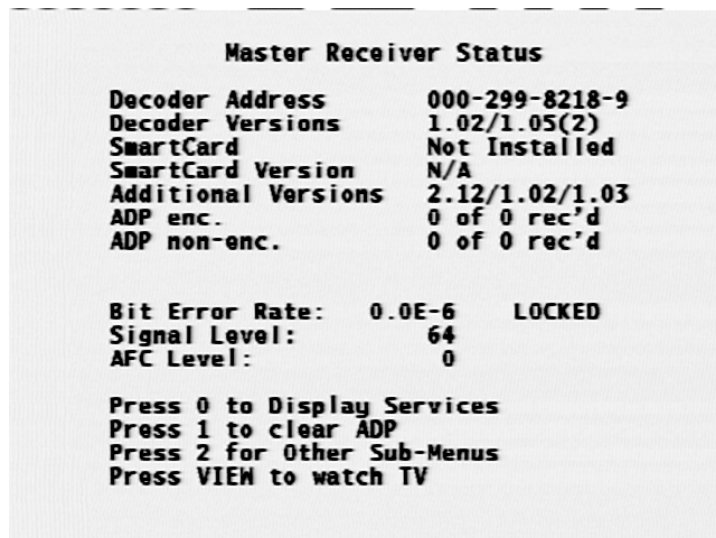

Figure 3-4. Receiver Status Menu
Step 1. Press the **MENU** button at the receiver front panel (see Figure 3-4).
Step 1. Press the MENU button at the receiver front panel to display the Receiver Status menu (see Figure 3-4).